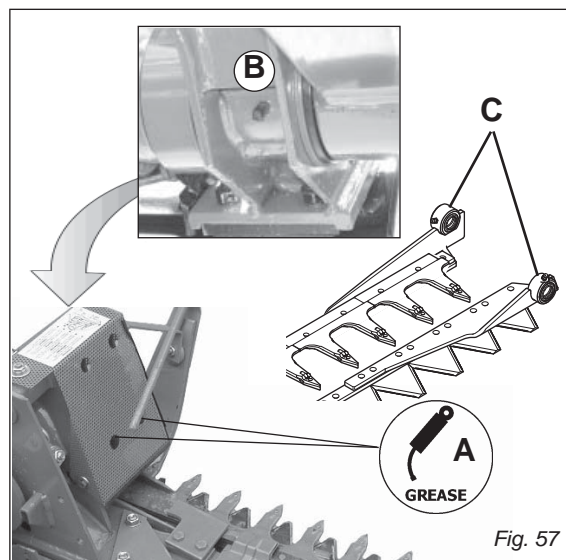

Fig. 57
- Grease point (A, B and C, Fig. 57).
During all maintenance operations on moving parts, it is important to grease all the points indicated in Figure 57 before starting the machine.
The expansion pins must be reassembled as shown in Figure 68 (A), by tightening the screw and the conical nut with a torque not exceeding 30 Nm. Every time the expansion pins are disassembled and reassembled, one must grease the blade head concerned (C, Fig. 57).